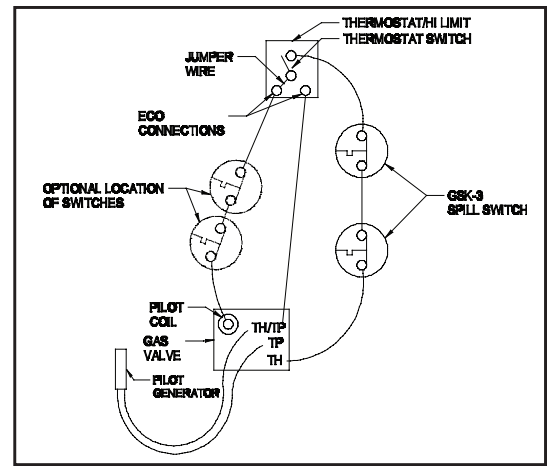

Figure 11
2. Wire the spill switch or switches into series with this circuit by wiring from the thermostat to the spill switch or switches then to the TH terminal on the gas valve. On older bleed tube style equipment wire switches in series with one wire of the E.C.O circuit. (See Figure 11)